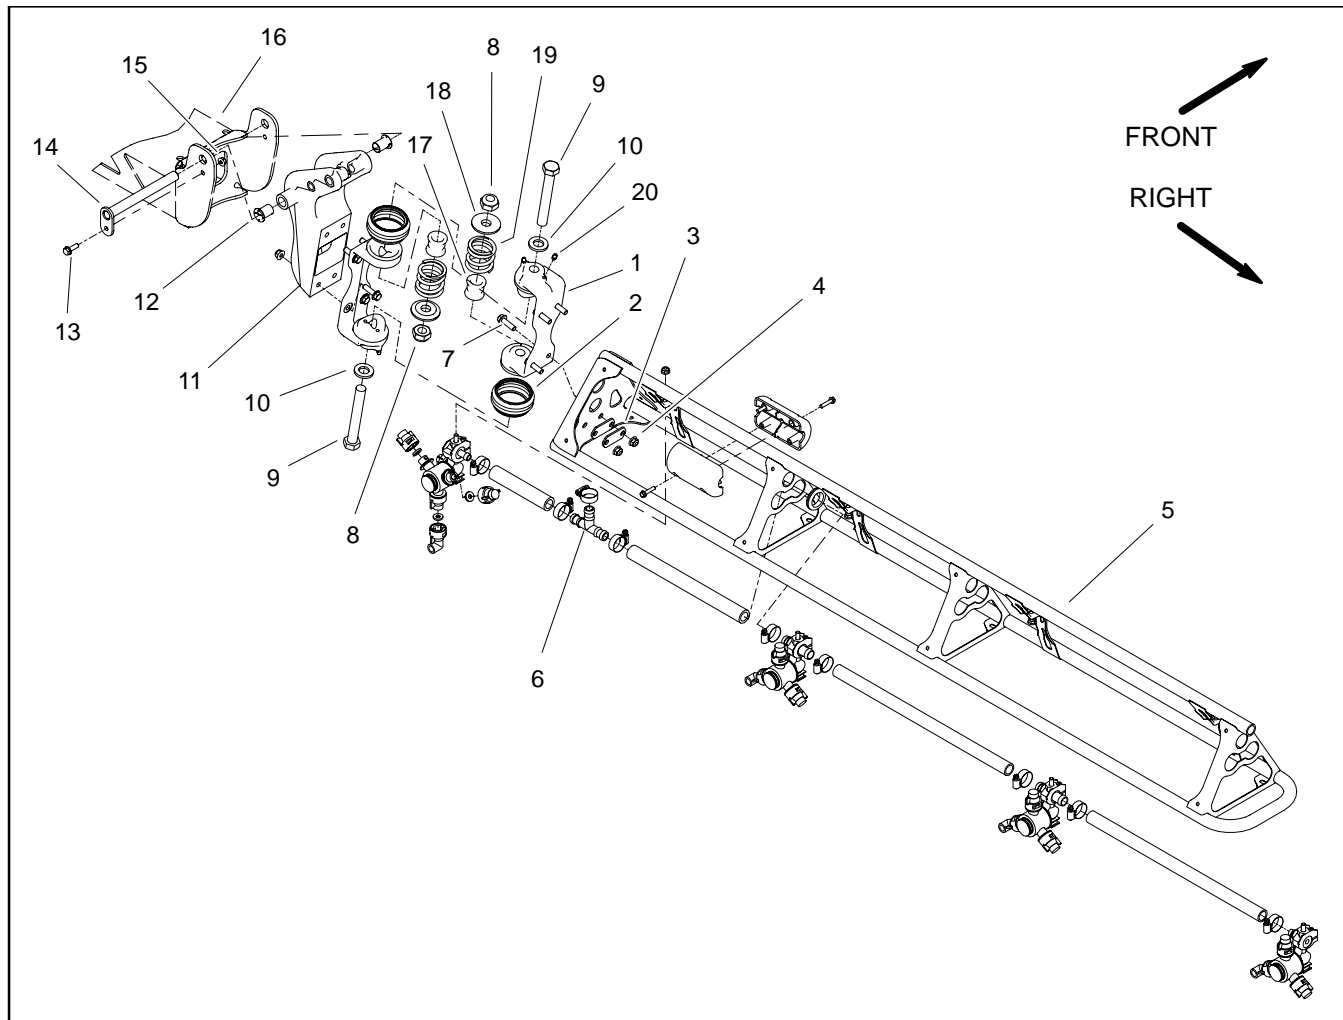

Figure 62
Disassembly (Fig. 62)
2. Loosen hose clamp and remove supply hose from tee fitting (item 6) on spray boom.
4. Loosen two (2) cap screws (item 9) and lock nuts (item 8) to allow breakaway springs (item 19) to fully extend.
5. Complete boom hinge disassembly as required using Figure 62 as a guide. If pivot bracket (item 11) is to be removed from machine, disconnect boom actuator (not shown) from pivot bracket (see Boom Actuator Removal) in this section).
Assembly (Fig. 62)